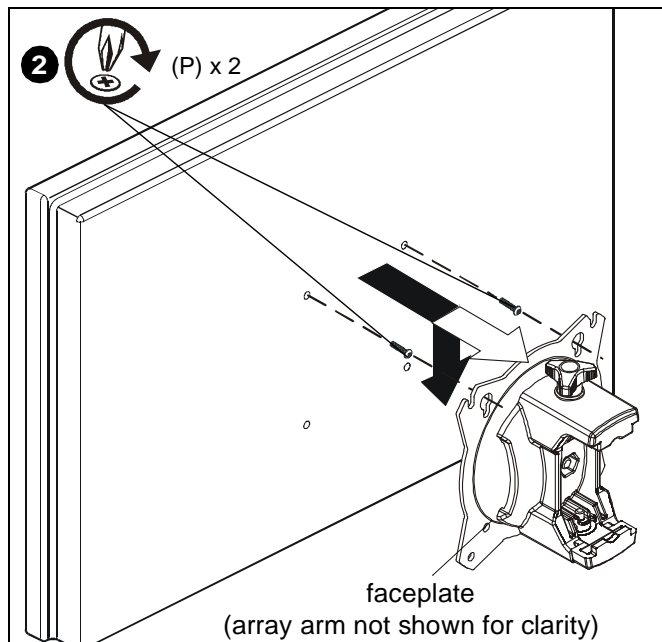

Figure 13
2. Using Phillips screwdriver, carefully install two M4 x 12mm Phillips pan machine screws (P) into the *upper* mounting holes on the display. Thread screws completely into display, then back out 3 complete turns. (See Figure 13)
3. Pick up and align display so that screws (P) (installed on the back of the display in the previous step) fit into the mounting holes on the faceplate. Lower the display firmly into place. (See Figure 13)